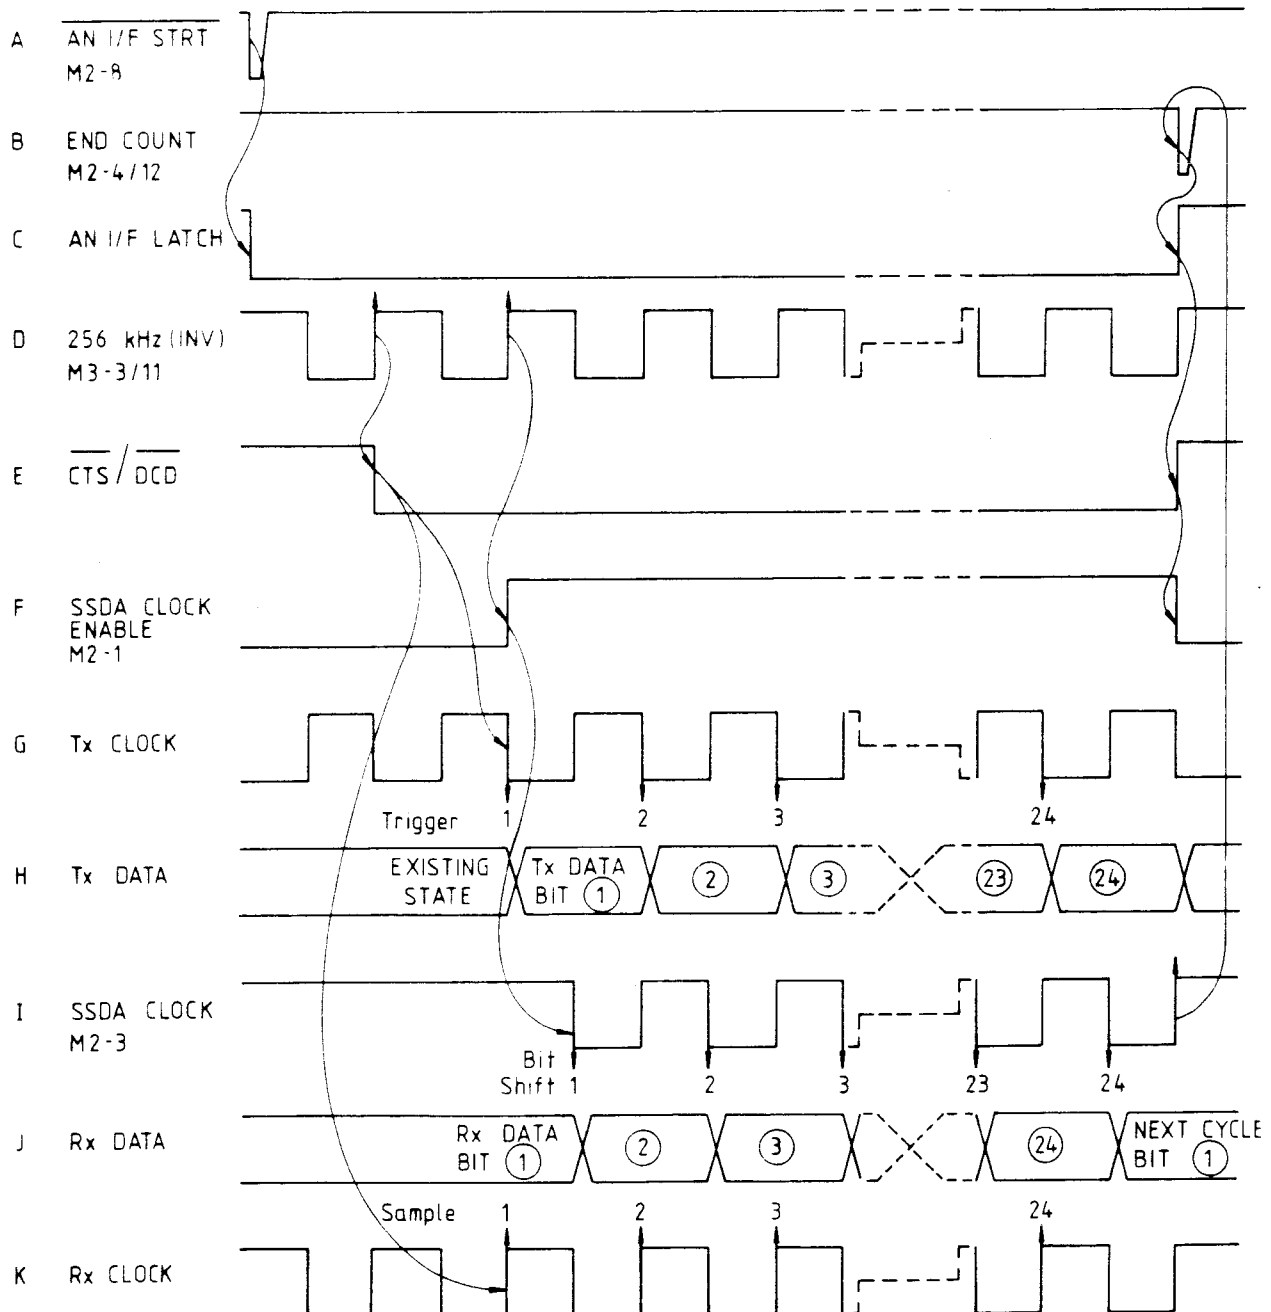

FIG. 6.16 SSDA CLOCK GENERATOR WAVEFORMS
(Fig. 6.16)
After $\overline{\text{CTS}}$ is set to Logic-0, the negative transition of the first full positive pulse triggers the first serial Tx data bit setup. (Refer to Fig. 6.16 Waveforms G and H).
'Rx CLOCK' is an inverted version of the 256kHz squarewave. After $\overline{\text{DCD}}$ is set to Logic-0, the positive transition of the first full Rx clock cycle triggers the SSDA. The SSDA thus samples the first Rx data bit before the SSDA clock triggers the shift registers. (Fig. 6.16 Waveforms K and J).
(Refer to Fig. 6.16 Waveform I).
- Removes 'RESET' to enable counters M4 at M4-7 and M4-15. (Refer to Fig. 6.16 Waveforms A and C).
(Refer to Fig. 6.16 Waveforms D and E).
(Refer to Fig. 6.16 Waveforms D, F and I).
(Refer to Fig. 6.16 Waveforms I, B, C, E and F).